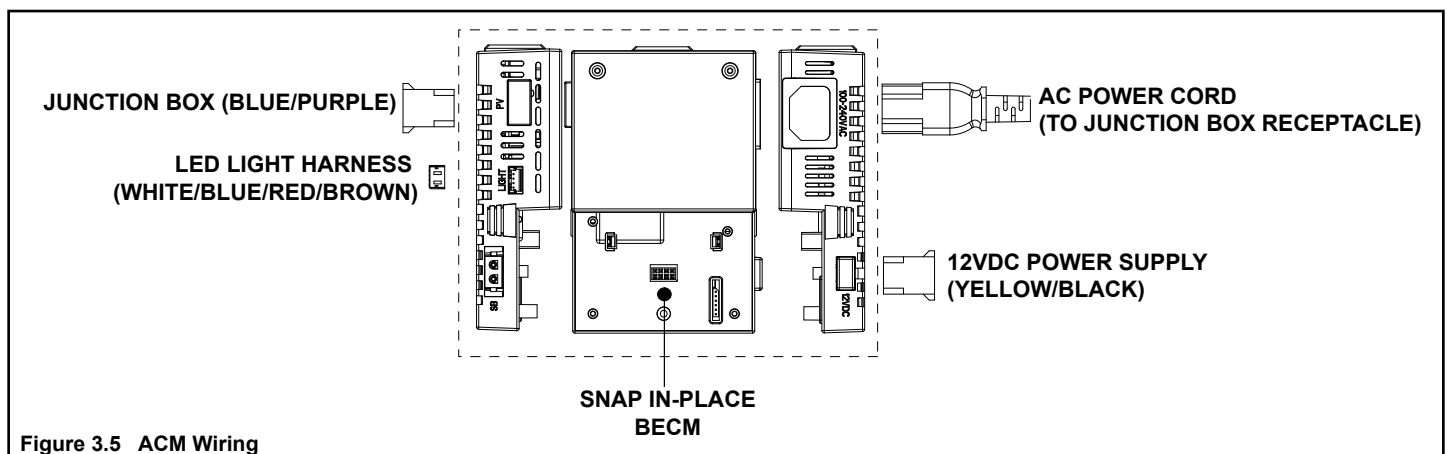

Figure 3.5 ACM Wiring
1. Disconnect the LED power supply's Black/Yellow wire connector from the Auxiliary Control Module (ACM) and White/Black Wire connectors from the AC power cord. See Figure 3.5.
3. Replace with a new ACM into the same location and reconnect the cables and the BECM in the same manner. See Figure 3.5.